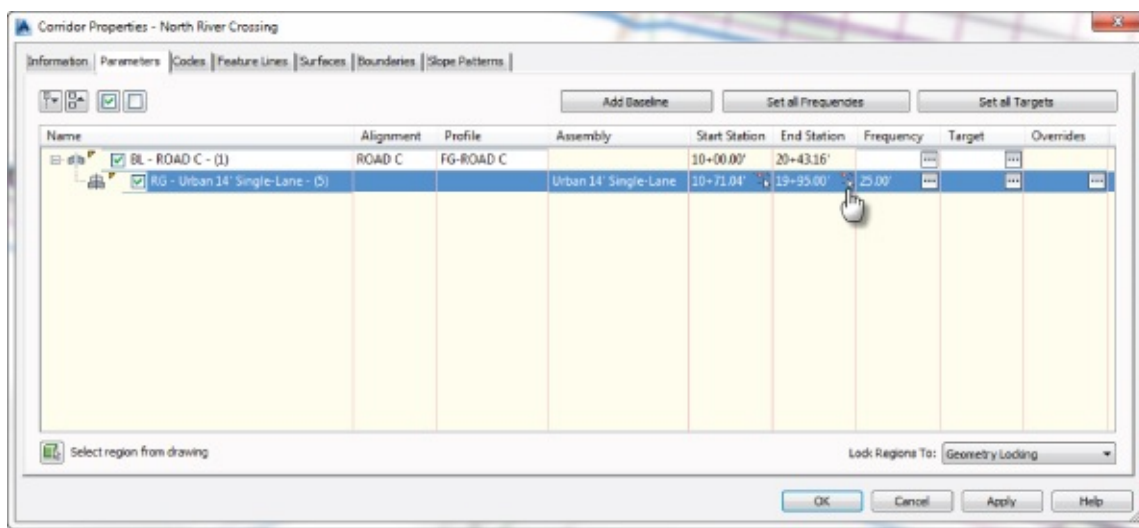

Figure 10.1 Changing the region end station
3. Click the icon in the End Station column for the region to pick a new end station in the drawing, as shown in Figure 10.1.